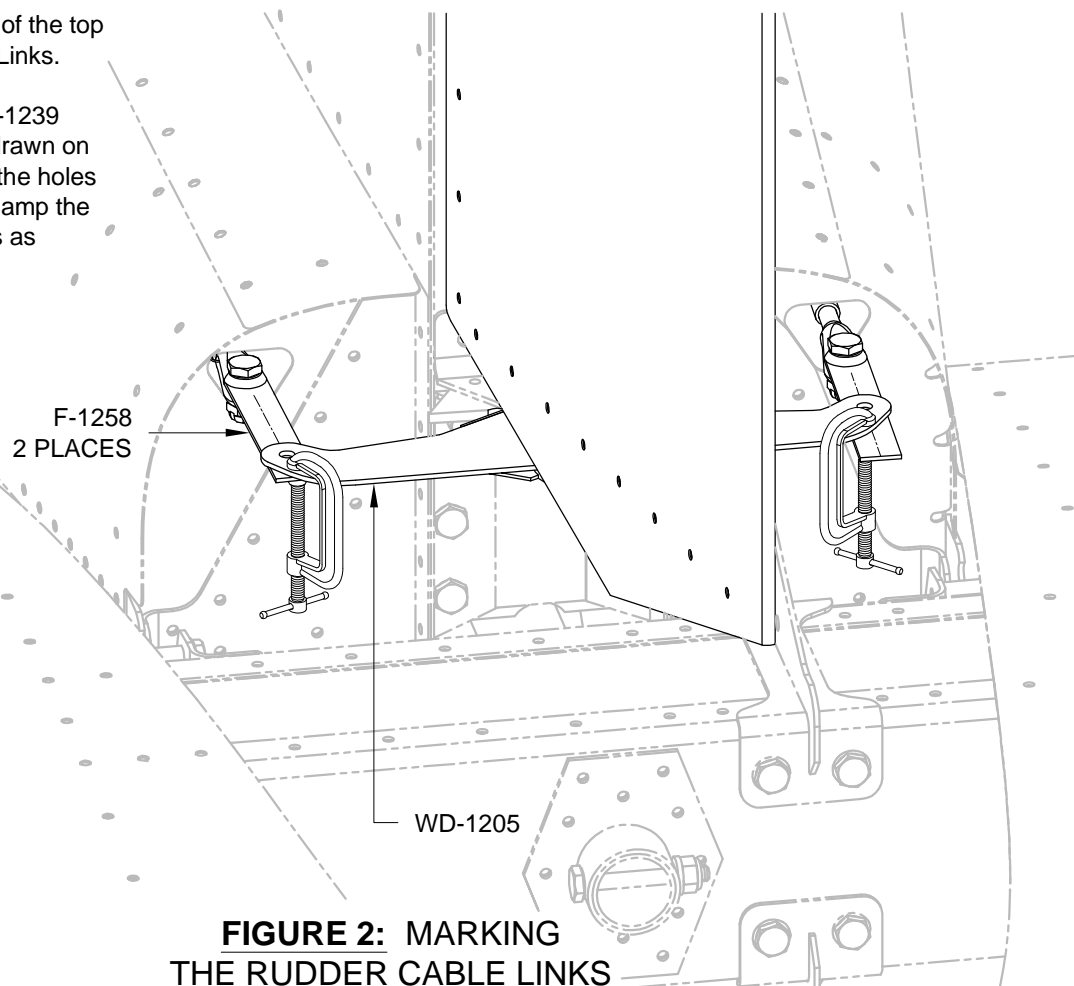

FIGURE 2: MARKING THE RUDDER CABLE LINKS
Step 3: Center the rudder, pull the F-1239 Rudder Cables tight, center the line drawn on the F-1258 Rudder Cable Links with the holes in the WD-1205 Rudder Horn, then clamp the rudder cable links to the rudder horns as shown in Figure 2.